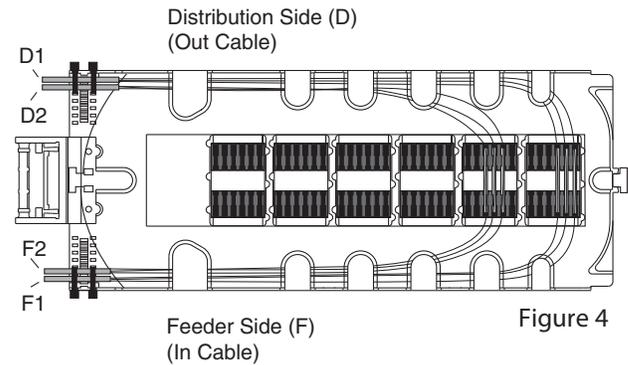

Figure 4
4. Route the feeder and distribution transportation tubes and their ribbons onto the lower splice tray. Route the feeder tubes to the feeder side of the tray, and the distribution tubes to the distribution side. (Fig. 4) The lower-numbered tubes should be on the outside of the tray, and the higher-numbered tubes on the inside. Secure the tubes in the slots with tie wraps.